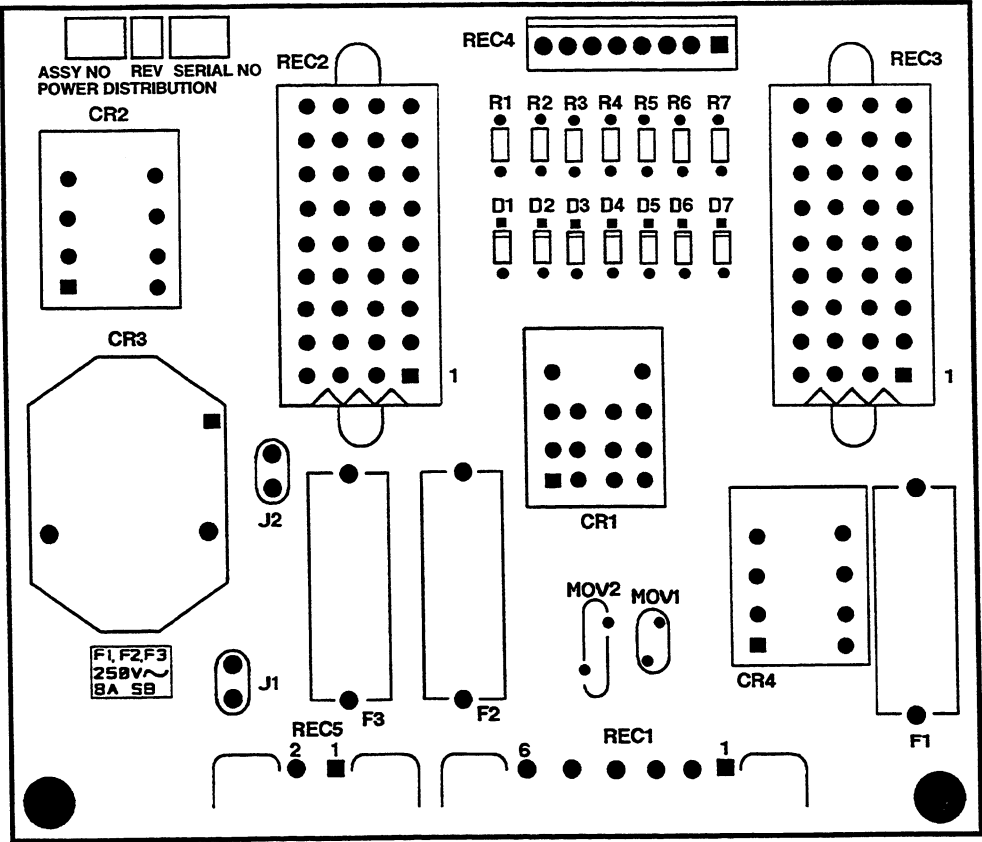

Figure 5-2 Power Distribution Board 1XPCB2
- 6. Measure voltage at Power Distribution Board 1XPCB2. Refer to Figure 5-2 for detail of 1XPCB2. Also refer to wiring diagram 013-4-266 at back of manual, if required. Look on the board for fuses F1, F2, and F3. Measurements between each fuse and chassis ground should be as follows:
1. The green POWER ON push-button switch PB1 is pressed, but the fans are not operating and the green POWER ON indicator does not light.	<p>1.1. The green POWER ON (1) PB1 push button is defective. Check that switch is operating correctly, and that good contact is being made. The POWER ON switch is normally open.</p> <p>1.2. The red POWER OFF (0) PB2 push button is defective. Check that switch is operating correctly, and that good contact is being made. The POWER OFF switch is normally closed.</p> <p>1.3. Associated wiring not making good contact. Check wiring and repair or replace, if necessary.</p>
2. The green POWER ON push-button switch PB1 is pressed, the POWER ON indicator lights, but the fans are not running.	<p>2.1. CR2 on the Power Distribution board is defective. Check that CR2 switches when POWER ON push button is pressed. See Figure 5-2 for location of CR2. If CR2 is defective, unsolder CR2 and replace.</p> <p>2.2. PL25 and REC20 located near the fans (see Figure 6-2 for location of fans) are not seated together securely and/or not getting 120VAC from Power Distribution Board.</p> <ul style="list-style-type: none">• Check pins, connectors and associated wiring for good continuity.• Check for 120VAC at PL25.
3. The green POWER ON push-button switch PB1 is pressed, the fans are operating, but the green POWER ON indicator does not light.	<p>2.3. PL2 and REC2 on Power Distribution board (see Figure 5-2 for location of REC2) are not seated well. Check pins, connectors and associated wiring for good continuity. Repair or replace, if necessary.</p> <p>3.1. Push button PB1 was not held down long enough. Press and hold PB1 for a minimum of five seconds.</p> <p>3.2. Relay CR1 on the Power Distribution board is defective. Check that CR1 switches when POWER ON push button is pressed. See Figure 5-2 for location of CR1. If CR1 is defective, unsolder CR1 and replace.</p> <p>3.3. One or more of the STATUS LEDs does not illuminate (except yellow OVERTEMP LED which illuminates) indicating a fault condition. To troubleshoot STATUS fault conditions, see Status LED Troubleshooting later in this section.</p>